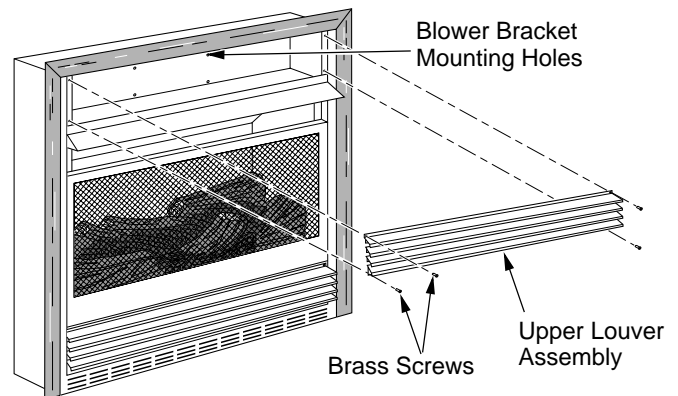
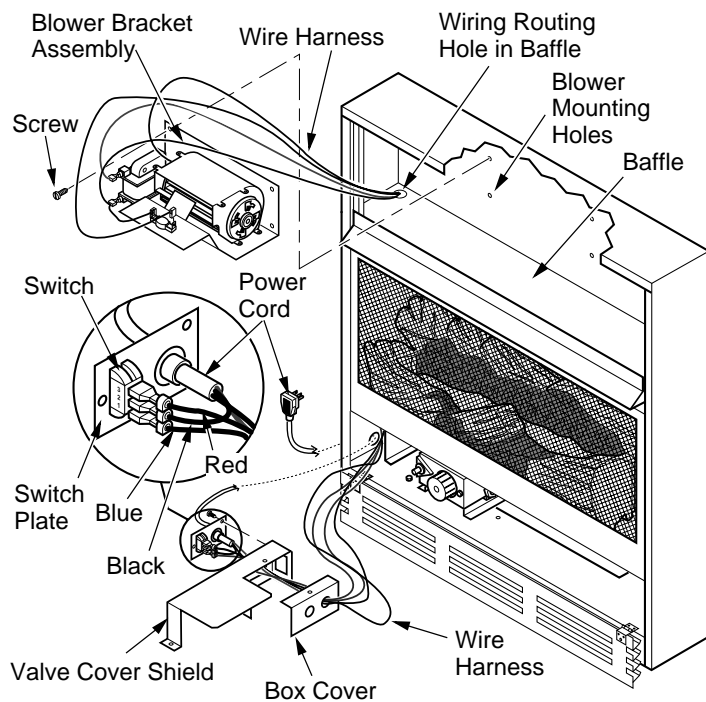
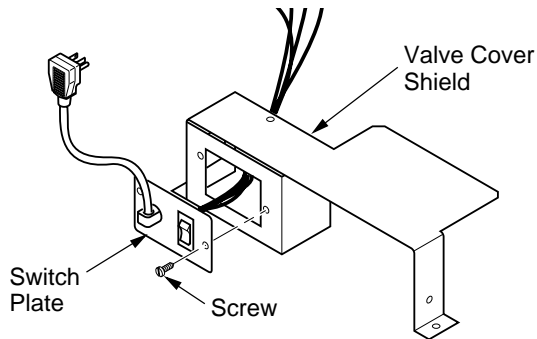

Figure 21 - Removing Upper Louver Assembly
Figure 23 - Installing Blower Bracket Assembly
Figure 25- Installing Switch Plate to Valve Cover Shield
1. Remove 4 screws from upper louver assembly (see Figure 21). Save these screws.
3. Note the wire locations on back of AUTO/OFF/ON switch. The terminals on back of switch are numbered 1, 2, and 3. Carefully remove red wire from terminal 3 and blue wire from terminal 1. Black wire can remain on middle terminal 2 (see Figure 23).
5. In top of the fireplace cabinet, locate the four mounting holes on the outer casing. Align these four holes with those on the blower bracket assembly. Attach blower bracket assembly to the outer casing with 4 #10 screws provided (see Figure 23).
6. Route the wire harness through the hole in left side of baffle. Pull wire harness through lower opening above where the valve shield was removed. (see Figure 23).
7. Insert the 4 wire harness into one of the round holes in the rear of the valve cover shield and through the rectangular hole in the front of shield (see Figure 23, page 15).
9. Install the switch plate on the valve cover shield with 2 #10 screws provided (see Figure 25). Reinstall the valve cover shield. Route power cord out of the cabinet by inserting it through the bushing on the outer casing (see Figure 23, page 15). Plug fan kit into 120-Volt grounded power supply and test operation. **Note:** When switch is in the AUTO position, the fan will start after the fireplace has run for a few moments. The fan will continue to run for several moments after the fireplace has been turned off. When switch is in the ON position, the fan will run until turned OFF. Reinstall upper louver assembly and hood if previously removed, (see Figure 21, page 14). Close lower louver door.
8. Reinstall upper louver assembly and hood if previously removed, (see Figure 21, page 14). Close lower louver door.